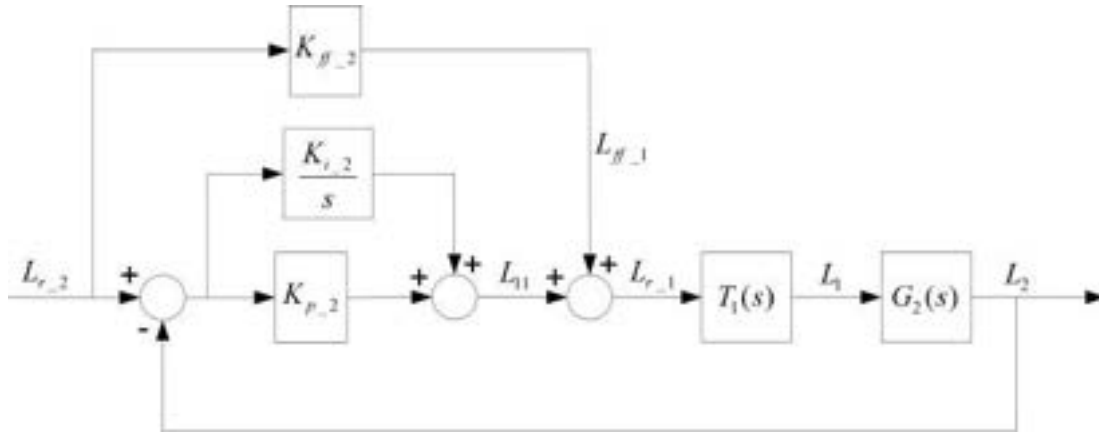

Figure 4.1: Tank 2 Water Level PI-plus-Feedforward Control Loop.
For zero steady-state error, tank 1 water level is controlled by means of a Proportional-plus-Integral (PI) closed-loop scheme with the addition of a feedforward action, as illustrated in Figure 4.1, below.
In the block diagram depicted in Figure 4.1, the water level in tank 1 is controlled by means of the closed-loop system previously designed in Section 3.1. This is represented by the tank 1 closed-loop transfer function defined below:
Furthermore as depicted in Figure 4.1, the level feedforward action is characterized by:
The level feedforward action, as seen in Figure 4.1, is necessary since the PI control system is only designed to compensate for small variations (a.k.a. disturbances) from the linearized operating point L_{10} , L_{20} . In other words, while the feedforward action compensates for the water withdrawal (due to gravity) through tank 2's bottom outlet orifice, the PI controller compensates for dynamic disturbances.
2. **A-1** Using tank 2 voltage-to-level transfer function $G_2(s)$ determined in Section 2 and the control scheme block diagram illustrated in Figure 4.1, derive the normalized characteristic equation of the water level closed-loop system.